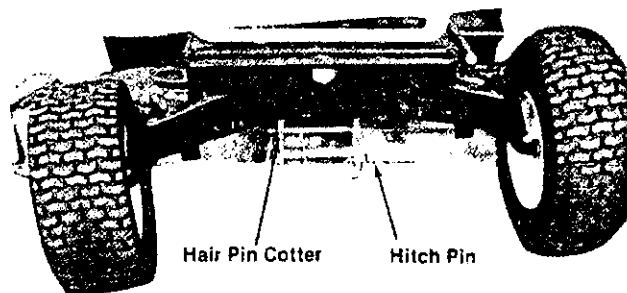

FIGURE 26.
2. Remove the haripin cotter and pull out the hitch pin. See figure 26.